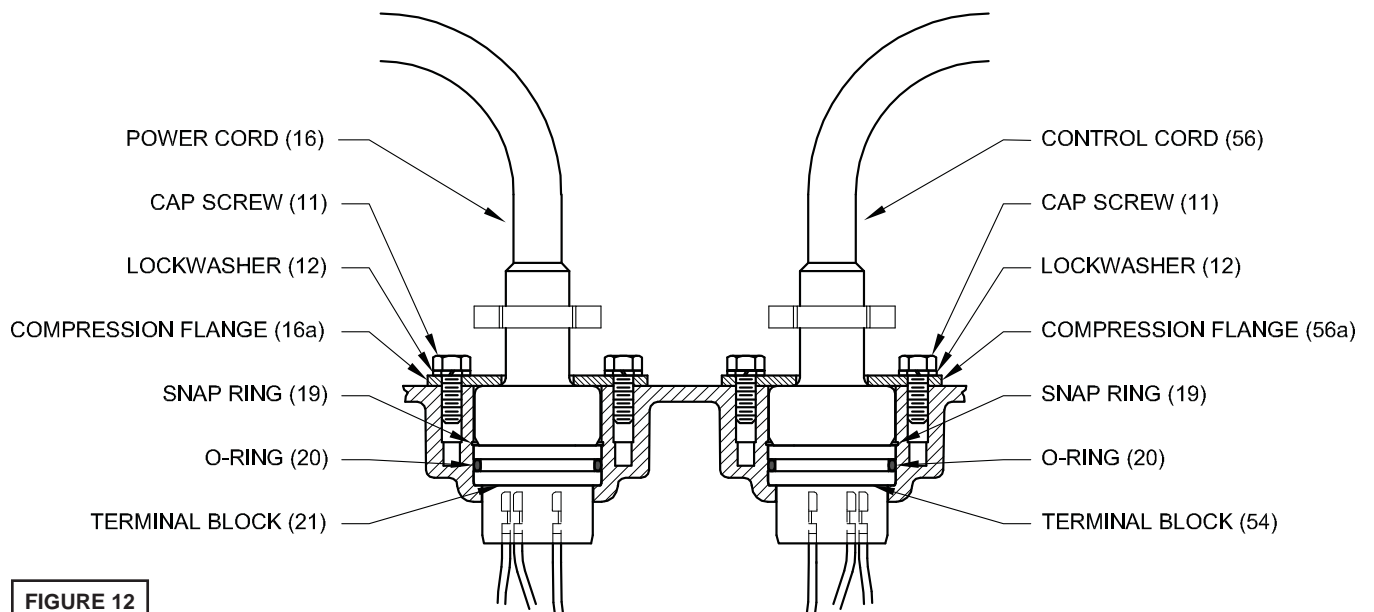

FIGURE 12
Check power cords (16) and control cord (56, if used), for cracks or damage and replace if required (see Figure 12). Make internal wiring connections which are independent of the terminal block as shown, using connectors (48) and wire assemblies (49) as required. Do not use wire nuts. Slip motor leads and ground wire into fiberglass sleeve. Lower motor housing (6) down onto seal plate (5) while aligning holes and stringing motor leads through the cord entry bore(s). (Slipping cords inside a 1 ft. length of .5" conduit makes this easier). Place socket head cap screws (47) through seal plate (5) into